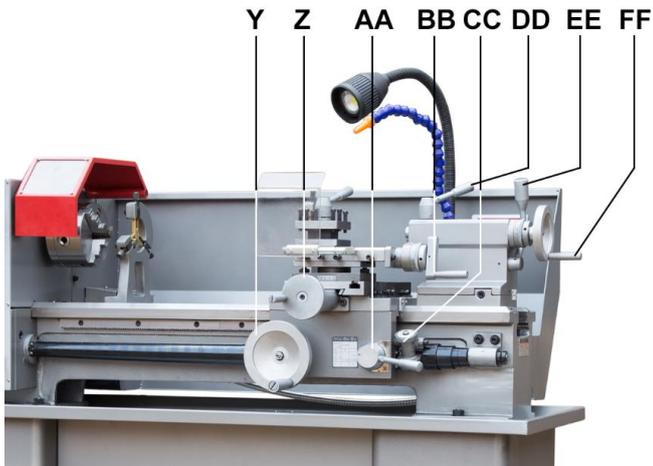

Figure 10-6: Machine controls
Apron travel (Y, Fig 10-6), cross travel (Z) and top slide travel (BB) can be operated for longitudinal and cross feeding.
Move the half-nut lever (AA, Fig 10-6) down, to engage the automatic longitudinal feed. Move it up to disengage
Engage the half nut (AA, Fig 10-6).